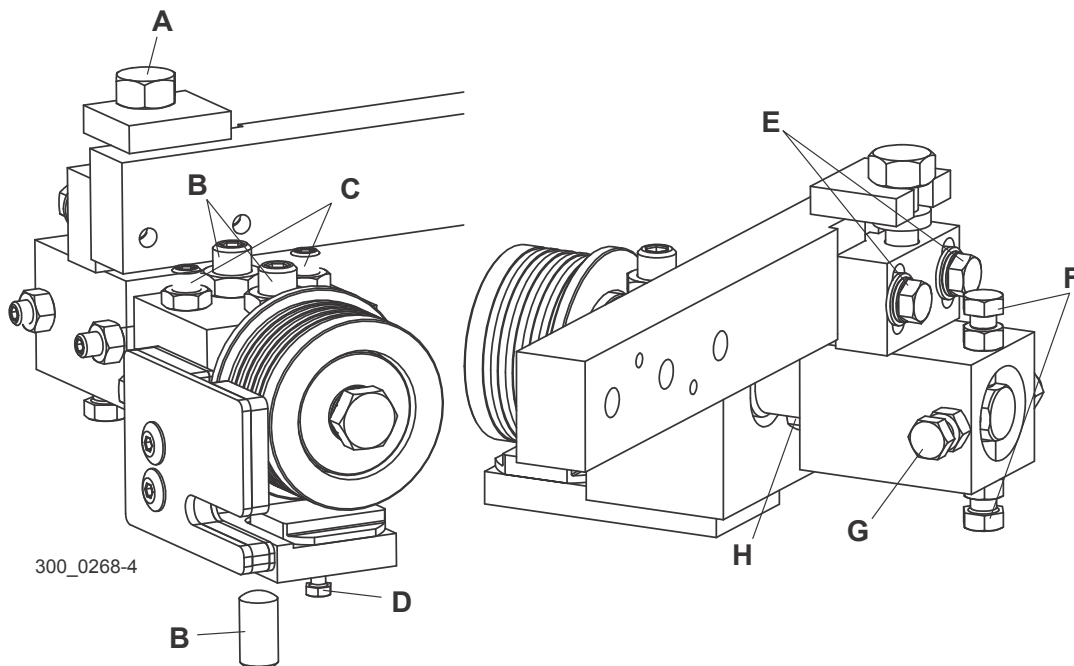

FIG. 3-18
See Figure 3-18. Standard Roller/Block Guides: Turn blade guide assembly bolt (A) clockwise to move the guide roller up off the blade. Loosen screws (F) and (G) and move the guide assembly back away from blade.